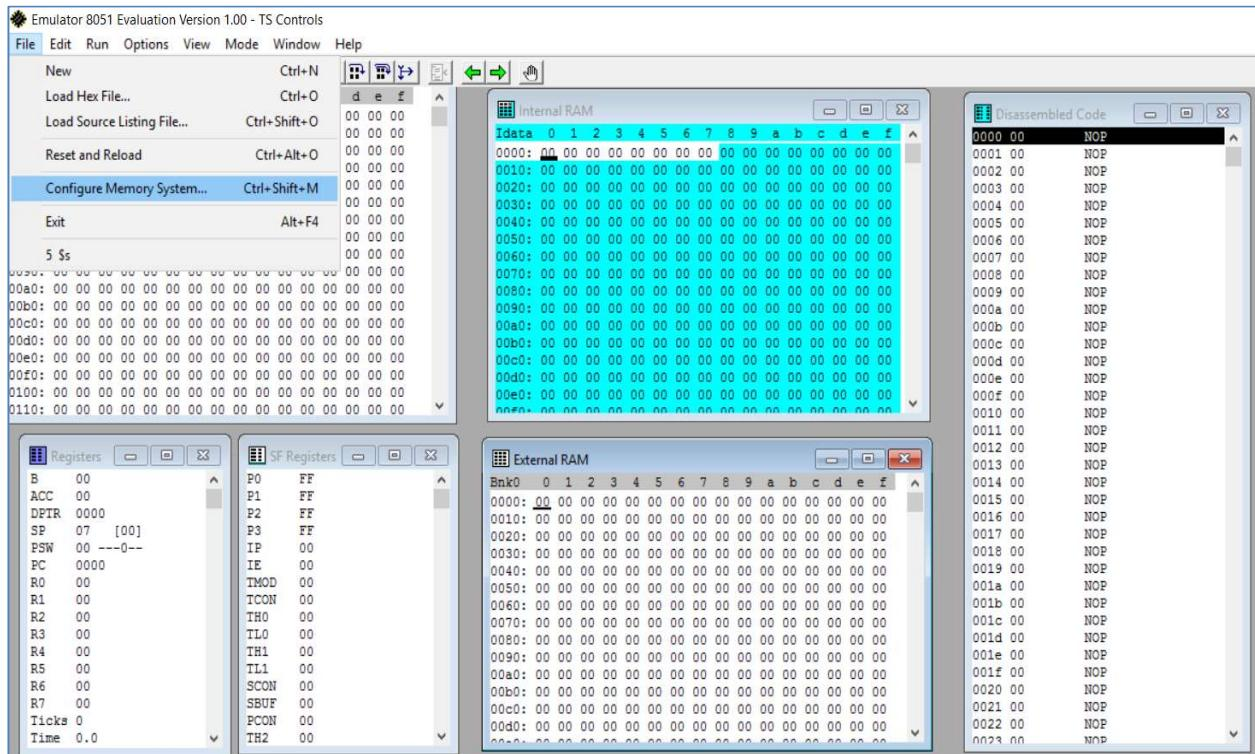

Figure 4.5: Configuring memory system in Emulator 8051 Evaluation
- f. Now click file and then go to configure memory system as shown below in Figure 4.5.